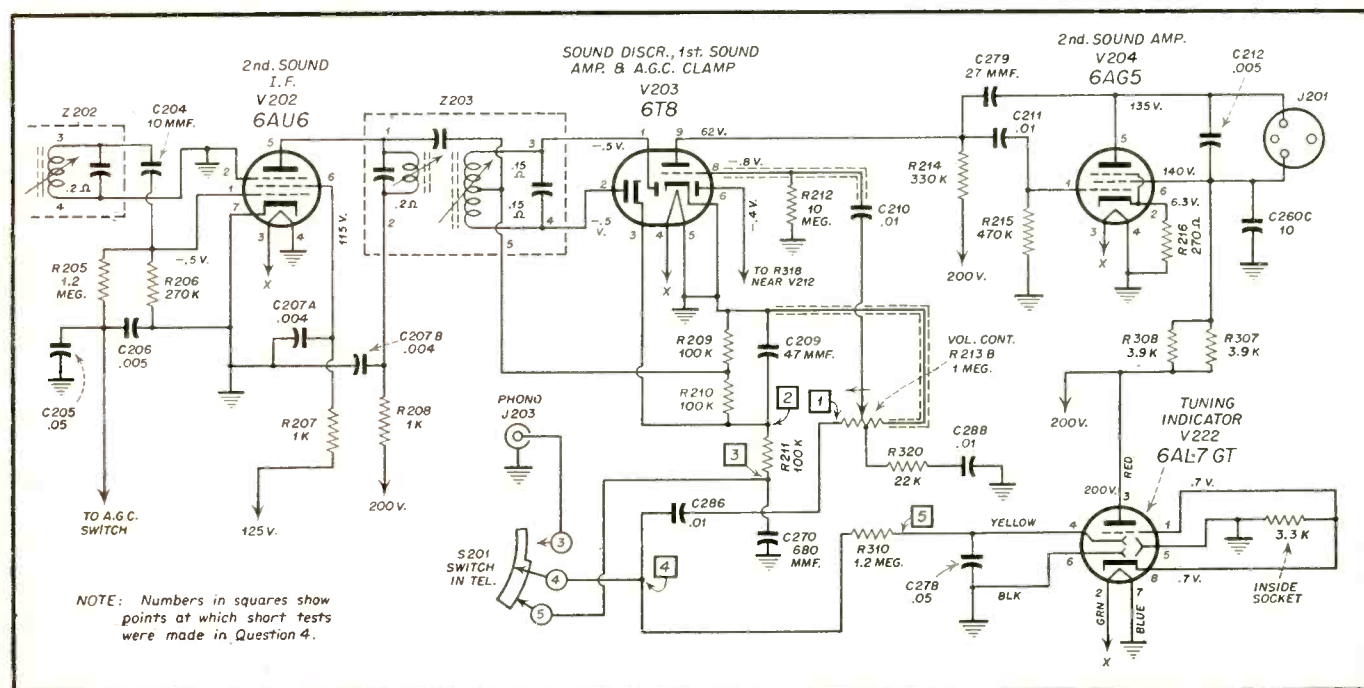

Fig. 1—Partial schematic of DuMont Model RA111A, portion of audio strip.
3. The hum seems to be located in the audio circuit immediately before or around the volume control. To check this further, the last sound i-f tube, V202, 6AU6 (Fig. 1) is removed. Hum is still heard. The combined discriminator—1st audio tube, V203, 6T8, is removed. Hum disappears. A
4. In this case, the screwdriver method is a simple way to find the point at which hum is being introduced into the circuit. The screwdriver was shorted to the chassis at the following circuit points (see Fig. 1) with the following results: